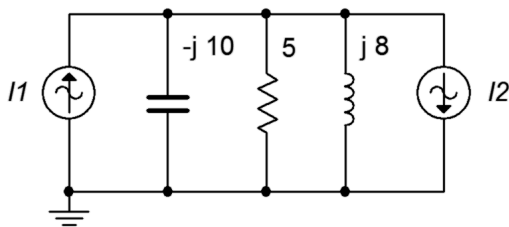

Figure 3.17
27. Determine the resistor and capacitor currents in the circuit of Figure 3.17. Assume I_1 is 2 A at 0 degrees and I_2 is 500 mA at +45 degrees.
28. Determine the source voltage for the circuit shown in Figure 3.17. Assume I_1 is 2 A at 0 degrees and I_2 is 500 mA at +45 degrees.